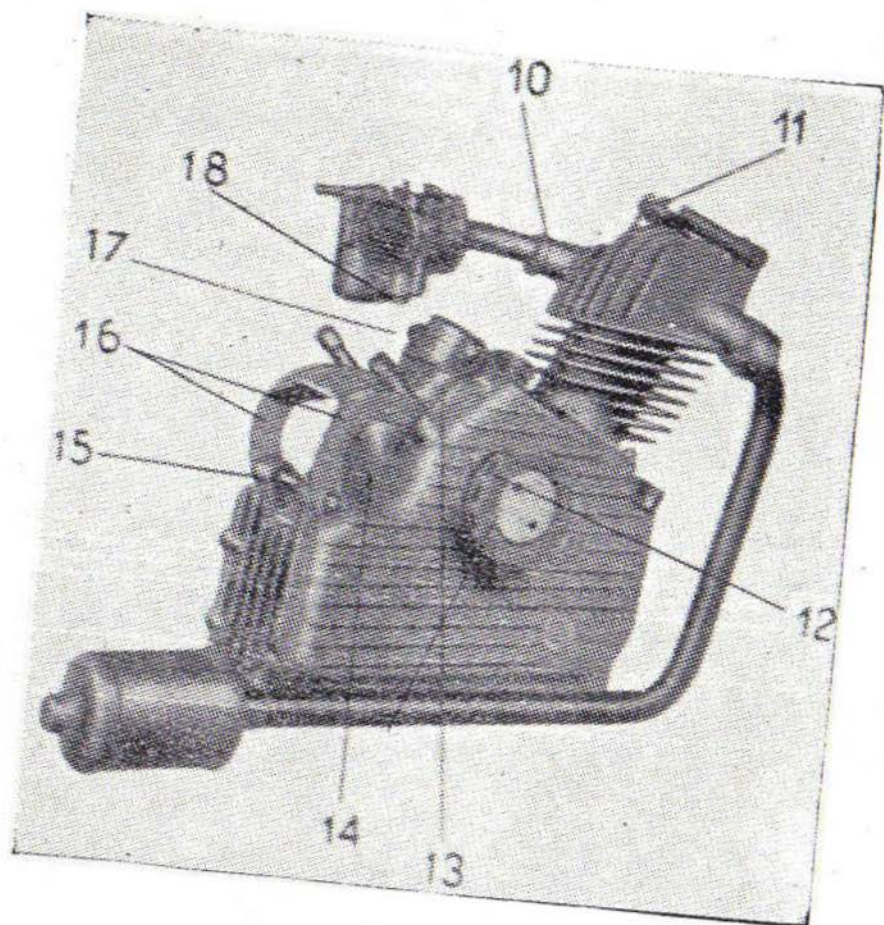

Fig. 6
- (c) The carburettor should be perfectly level. Its position can be corrected by loosening the round screw (10) (fig. 6), which locks the induction pipe to the motor. Fit the Bowden cables, which are supplied already connected to their levers, to the carburettor, the Bowden wire to the throttle is threaded in the hole of the little thimble on the lever of the carburettor throttle and locked with the screw. The Bowden wire for the valve lifter is fixed to the top part of the cylinder head
The cause is an obstruction in the main carburettor jet (18) (Figure 6). Unscrew and blow energetically with the mouth or with the type pump and screw on again.
Adjustment of clearances can be effected readily by loosening the top (locking) nut of the rod (11) (Figure 6) and setting clearance by turning the second nut. One full turn of the nut will correspond to a difference of 15/1000 of an inch. Oil occasionally the operating-arm bushings on cylinder head.